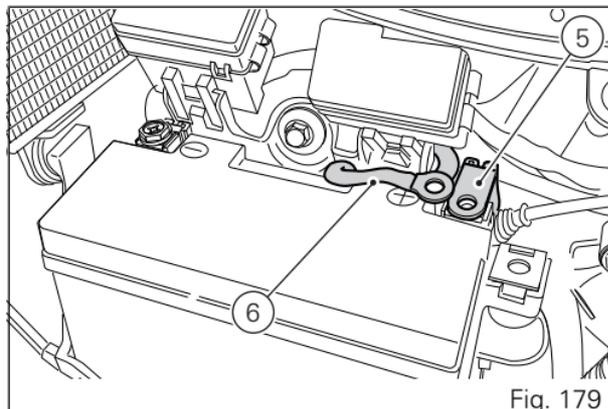

Fig. 179
Reinstall the battery (3) in the support, positioning the cables (5) and (6) as shown in (Fig. 179).